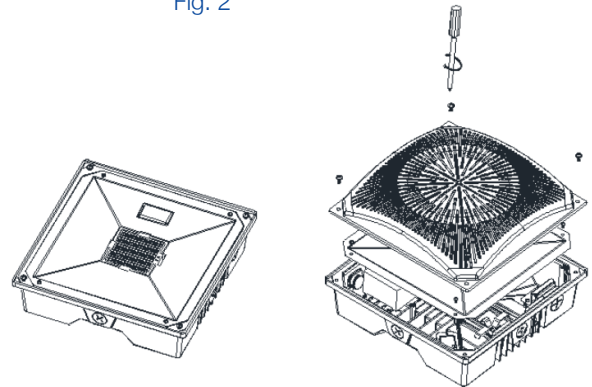

Fig. 4
5. Put the reflector and lens back in place and tighten the screws. (Fig. 4)